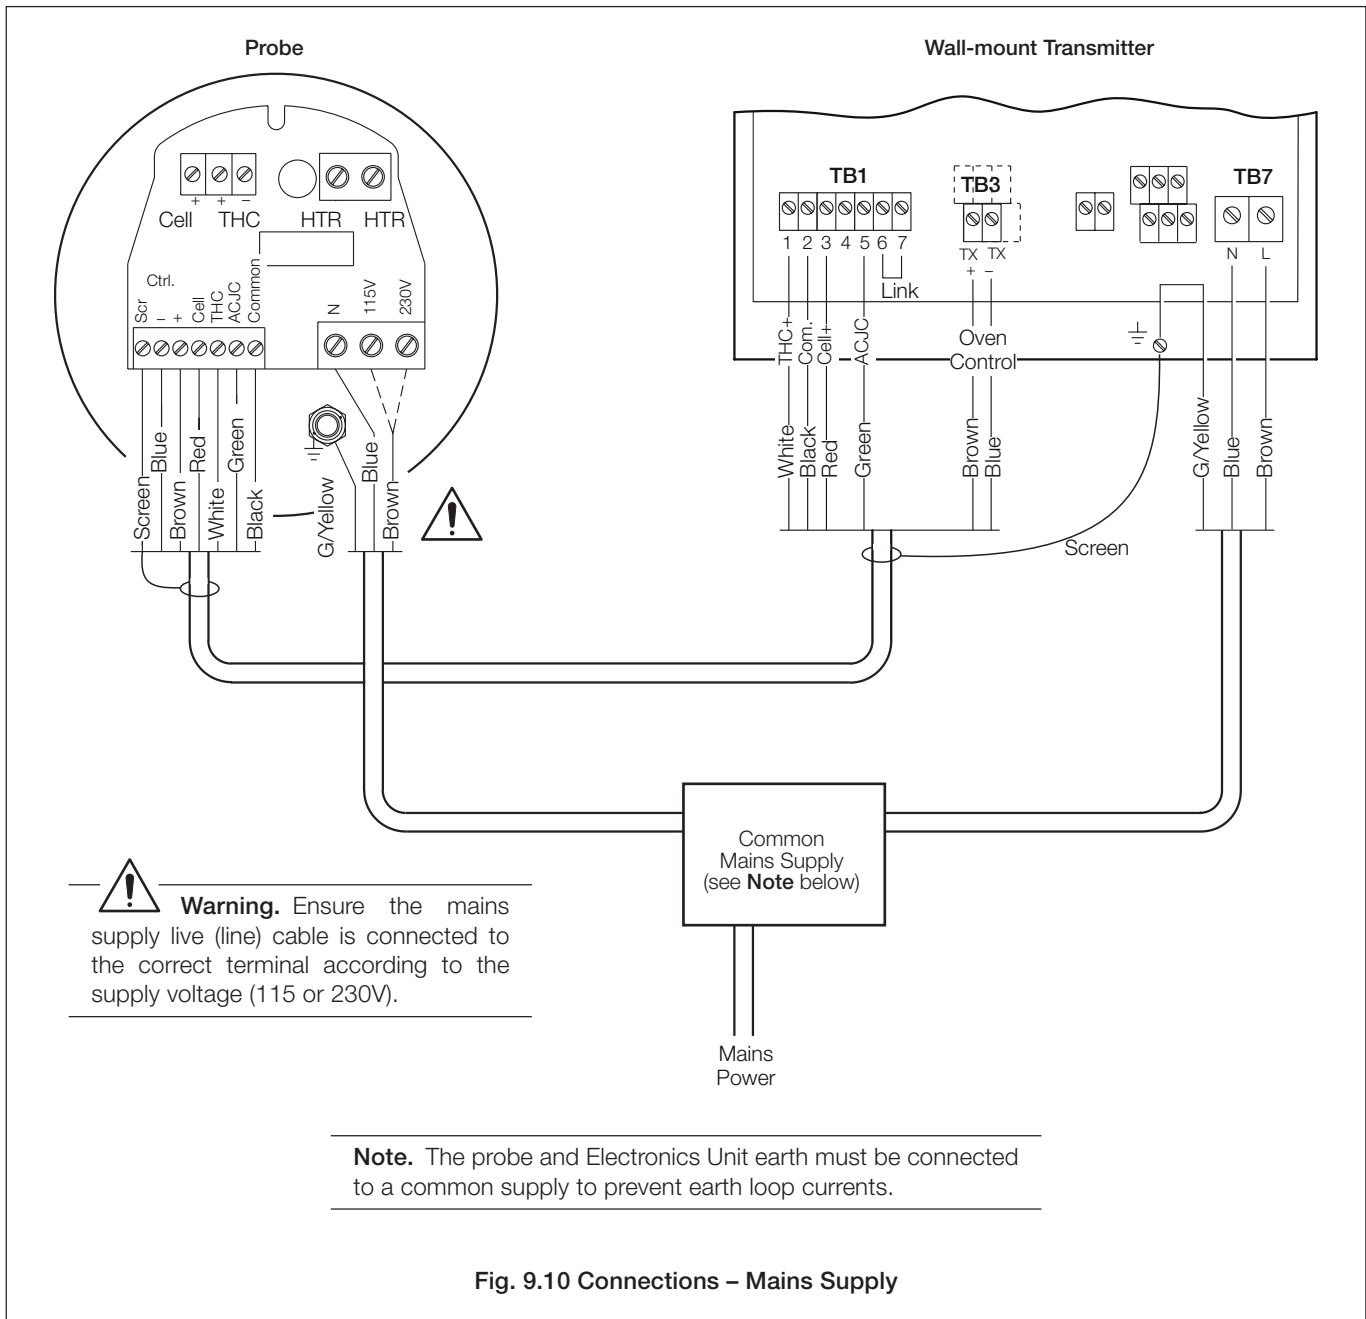

Fig. 9.10 Connections – Mains Supply
9.7 Connections, Mains Supply Junction Box – Fig. 9.10
The probe and electronics unit **MUST** be connected to a common mains supply – see Fig. 9.10. (Wall-/pipe-mount Electronics Unit shown, panel-mount similar).